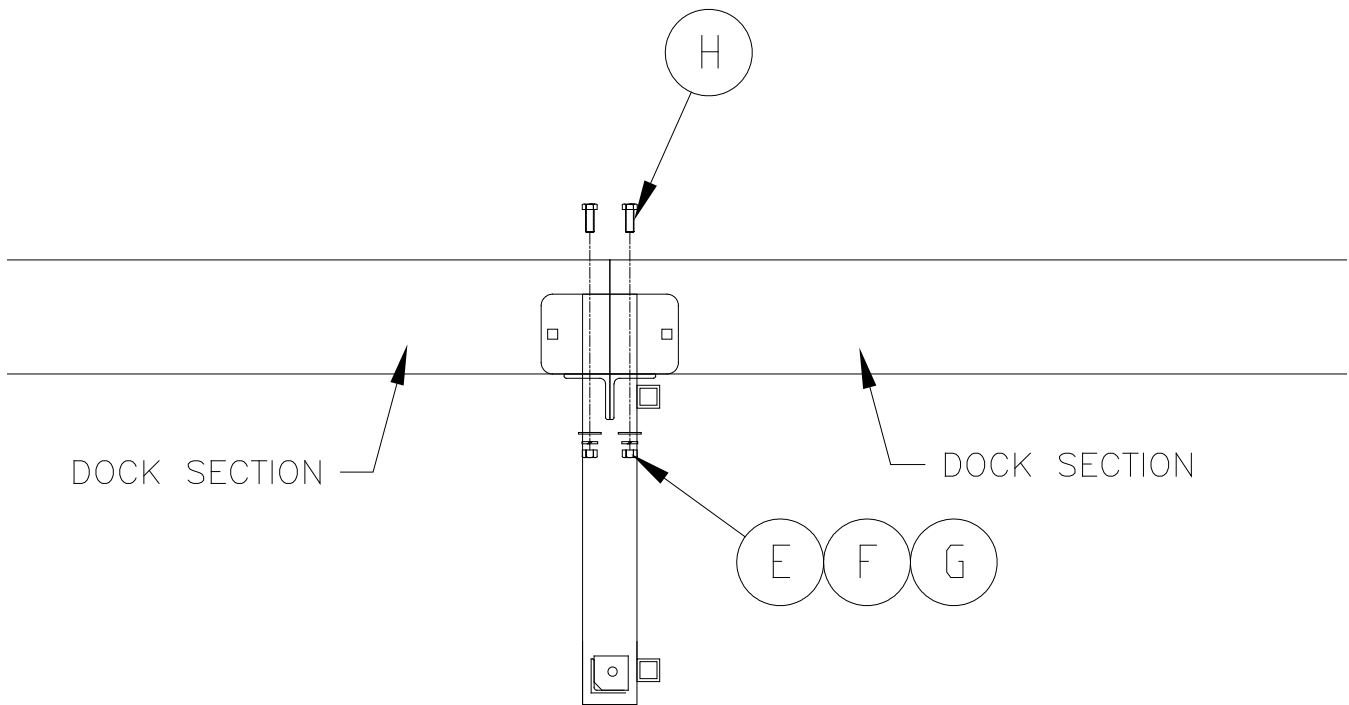
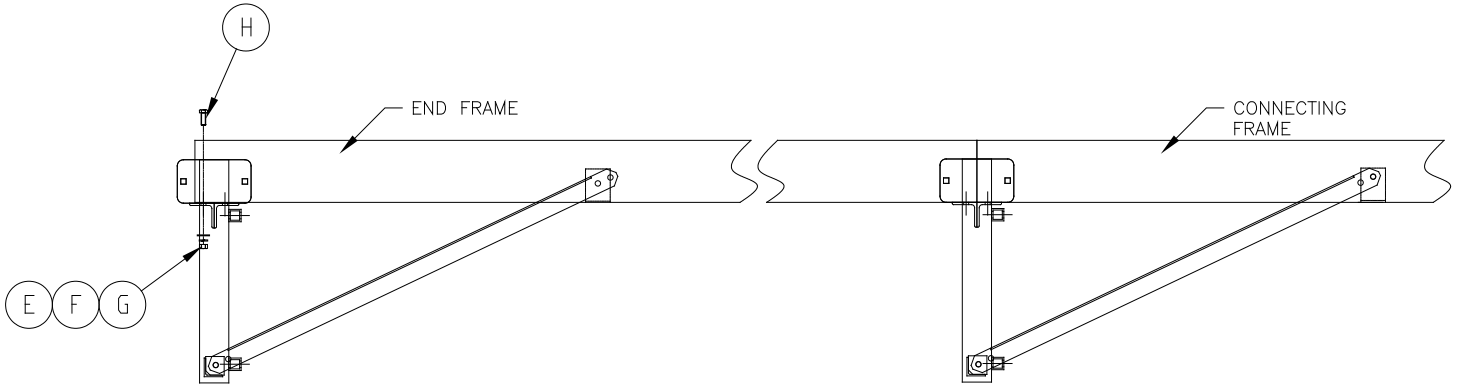

Figure 2-3 Connecting Frame Assembly.
Figure 2-4 Diagonal Brace
1. The braces mount to the angle on the inside of the side profile of the dock and to the plate on the bottom of the leg plates with the necessary hardware shown in figure 2-3. Figure 2-4 gives an example of how they would mount on either a connecting frame or an end frame